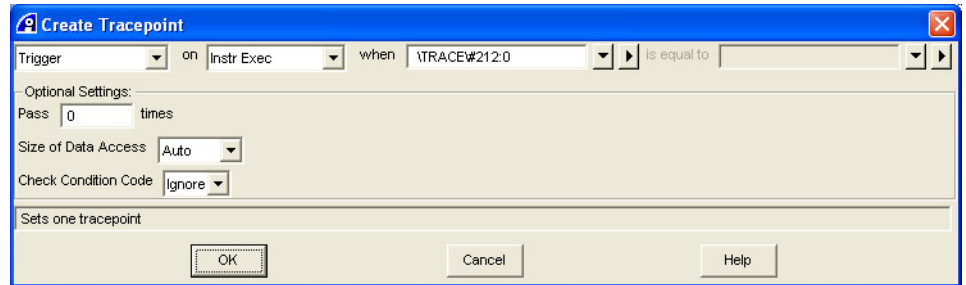

Figure 8-2 Create Tracepoint dialog box
2. Select **Edit...** from the context menu to open the Create Tracepoint dialog box. Figure 8-2 shows an example: